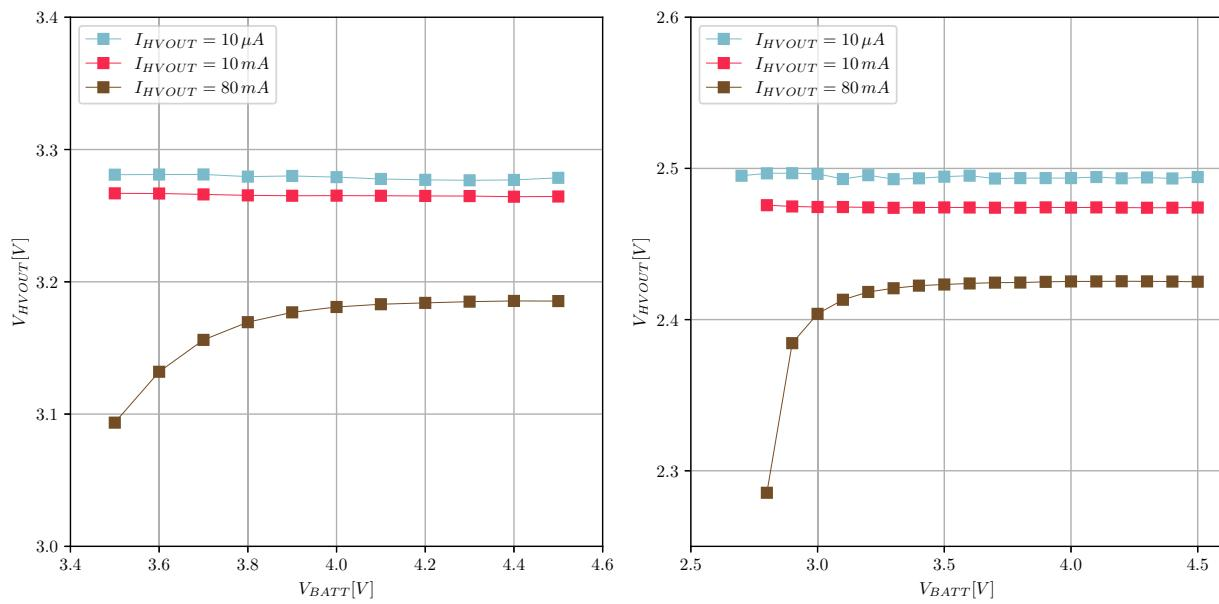
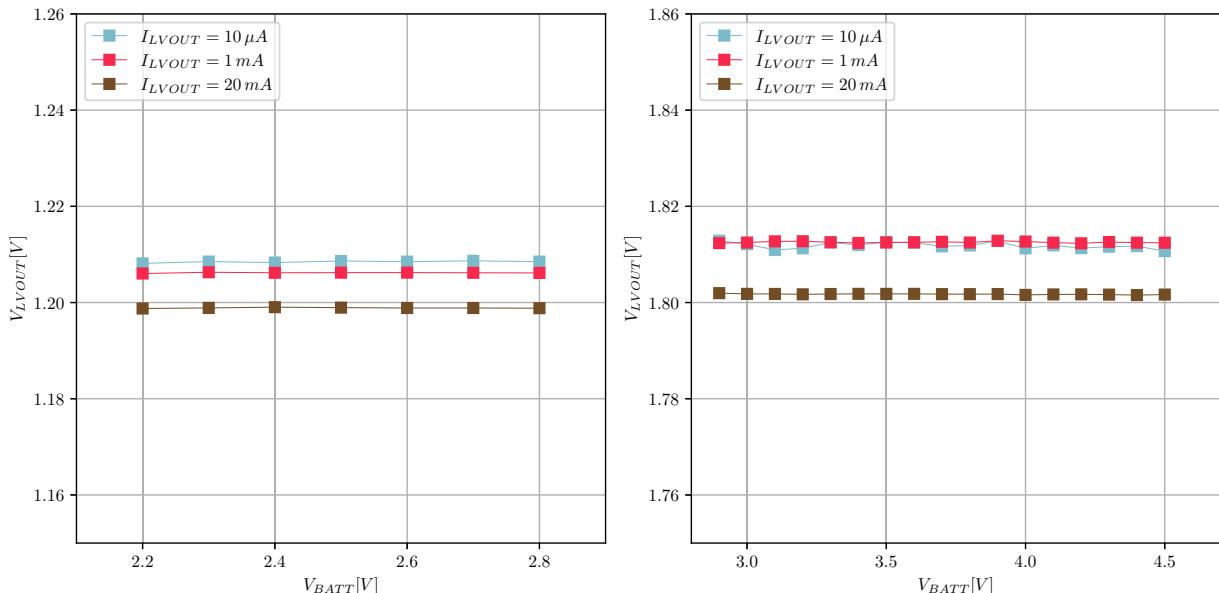

Figure 9: **HVOUT** at 3.3 V and 2.5 V
Figure 10: **LVOUT** at 1.2 V and 1.8 V
- **HVOUT/LVOUT**: measure the voltage (results shown on Figure 9 and Figure 10).